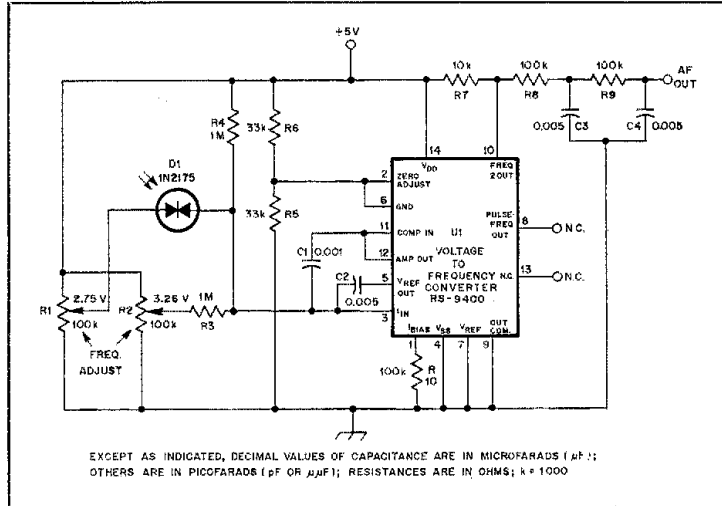

Fig. 1 — Diagram of an AFSK modulator for use with a FAX machine. U1 is mounted in an IC socket. Numbers in parentheses are Radio Shack part numbers.
□ A recent change in FCC regulations to permit the use of FAX on the lower ham bands encouraged me to develop this AFSK circuit for a Telefax machine that had not been used for a few years. The variable light intensity reflected from a FAX picture is converted to a variable audio-frequency-modulation source (AFSK). The circuit uses a Radio Shack 9400 voltage-to-frequency or frequency-to-voltage converter, and a Radio Shack IC Experimenter's PC Board. With all new parts, the system costs about \$30, is easy to build and produces pictures with good resolution. Fig. 1 shows the schematic diagram of the modulator circuit.